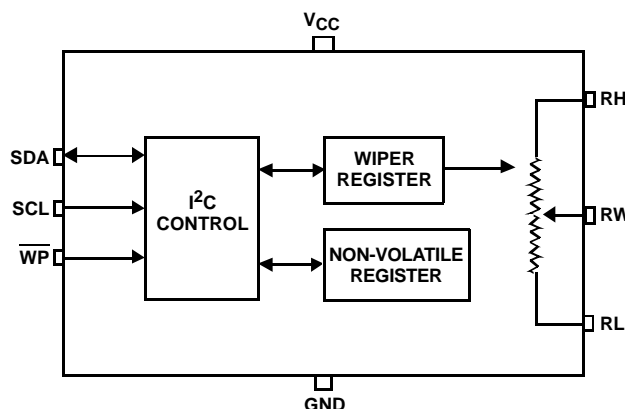

FIGURE 2. ISL95810 BLOCK DIAGRAM
The ISL95810 DCP is low noise, and has a low power I²C bus with 256 taps and is implemented with a combination of resistor elements and CMOS switches. The position of the wiper is controlled by the user through the I²C bus interface. The potentiometer has an associated volatile Wiper Register (WR) and a non-volatile Initial Value Register (IVR) that can be directly written to and read by the user. The content of the WR controls the position of the wiper. At power-up, the device recalls the contents of the DCP's IVR to the WR. A block diagram of the ISL95810 is shown in Figure 2¹.